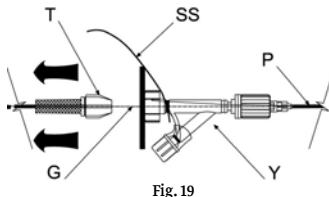

Fig. 19
- Hold firmly with one hand the "Y" connector and with the other pull the torquer at least 30 cm until the release of the device can be seen. Fig. 19 - 21.